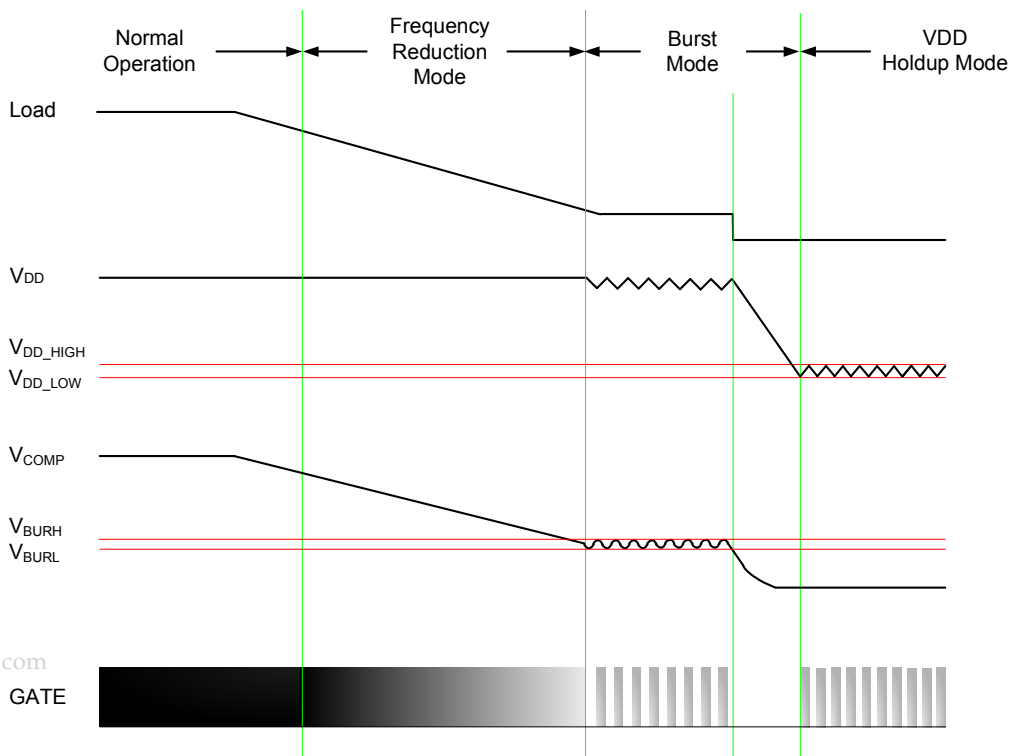

Figure 1. PWM Quadruple Mode
R7732 applies quadruple mode for improving efficiency at light load operation. Please also refer to Figure 1 for details.
- **Burst Mode** : During light load, switching loss will dominate the power efficiency calculation. This mode is to cut switching loss. As shown in Figure 1, when the output load gets light, feedback signal drops and touches V_{BURL} . PWM signal will be blanked and system ceases to switch. After V_{OUT} drops and feedback signal goes back to V_{BURH} , switching will be resumed.